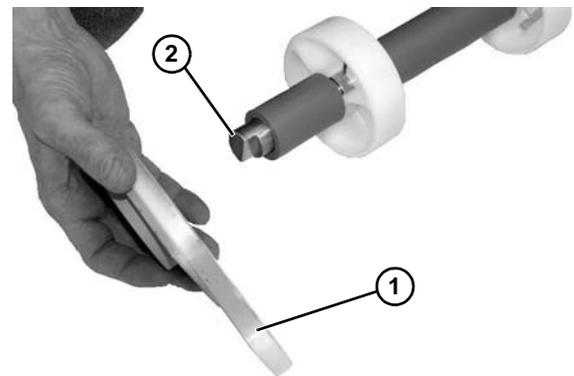

Figure 61
- Slide off idler head plate (**Figure 61, item 1**) from shaft (**Figure 61, item 2**).